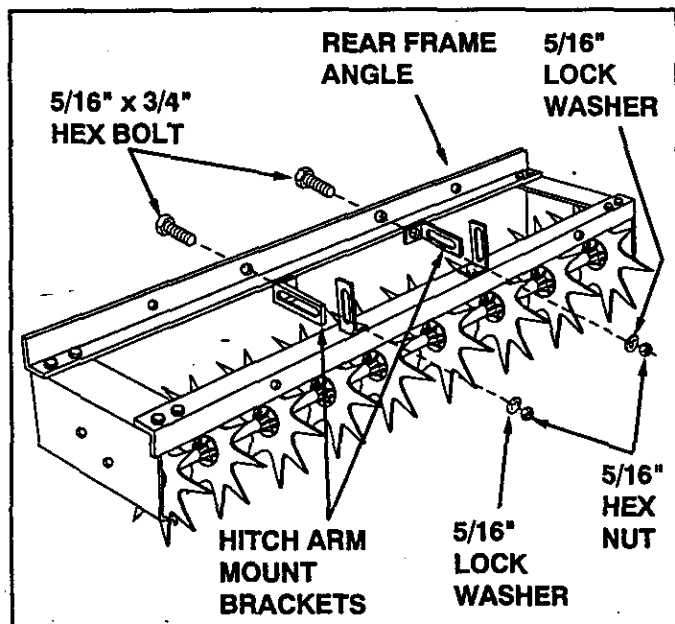

FIGURE 5
- Assemble two hitch arm mount brackets to the middle holes in the rear frame angle using two 5/16" x 3/4" hex bolts, two 5/16" lock washers and two 5/16" plain hex nuts. Make sure the brackets are aligned straight and then **tighten**. See figure 5.